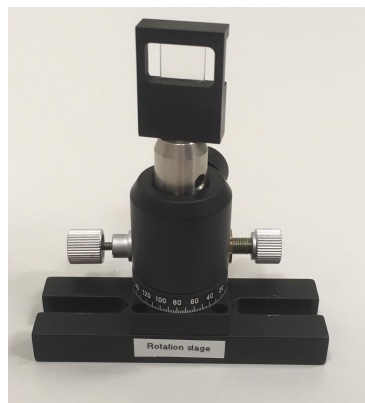

Figure 9: Miniature Rotation Stage
-Keep the exact same experimental set up as the previous section (Week 2). With the exception for this you will be adding the miniature rotation stage, Figure 9 below, while putting the glass or quartz slab in its holder.